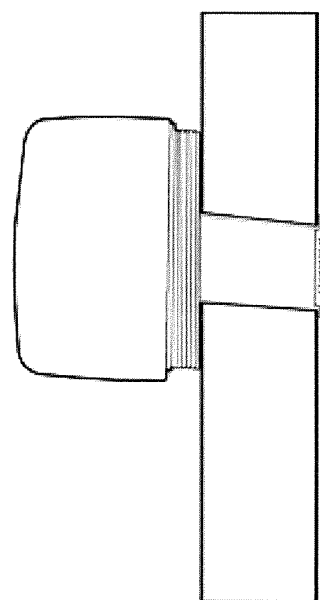

Fig. 5
**Note:** The holes should have a slight downward inclination to prevent any backflow of water from the pipes (see fig. 5).
When draining toward the outside, the pipe can be inserted through the wall (always making sure to give it a suitable inclination) (see fig. 5).